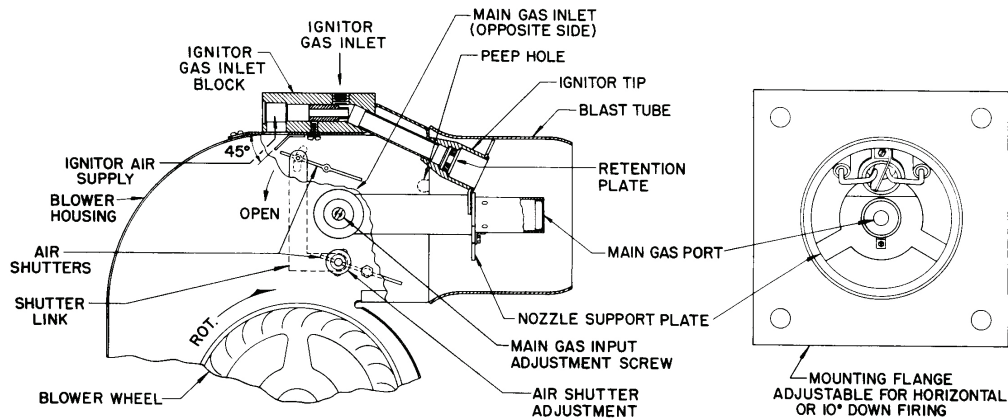

Figure 4 - General Burner Head Assembly
10. Remove the input adjuster cap (see Figure 4) and, with the Ignitor and Main Flame on, turn the Main Gas Input Adjusting Screw (see Figure 4) until the desired input rating is reached (refer to Table 2). Turning of adjustment screw counterclockwise increases gas flow; clockwise reduces flow. If Main Flame gas pressure requires adjustment, refer to Section V Piping Supply.
- Check that the Ignitor Air Deflector is at the correct angle (45°). See Figure 4.